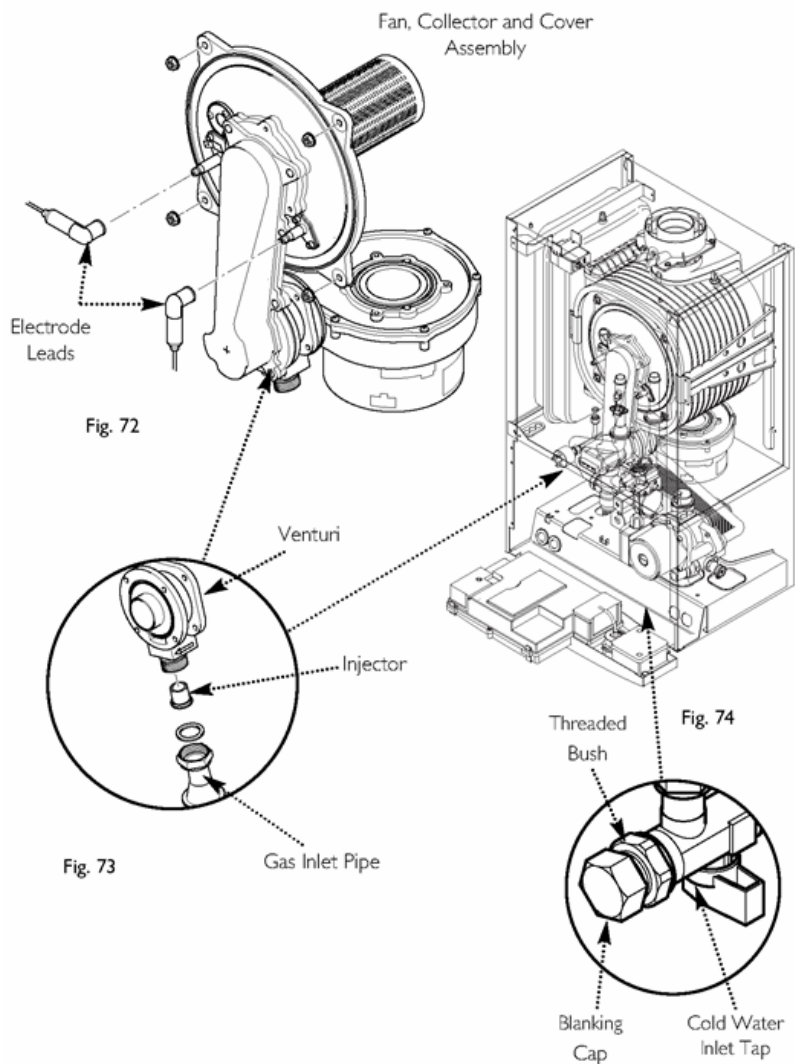

Fig. 72 Fig. 73 & Fig. 74
9. Carefully draw the fan, collector and cover assembly forward, being careful to retain the injector in the venturi (Figs. 72 & 73).